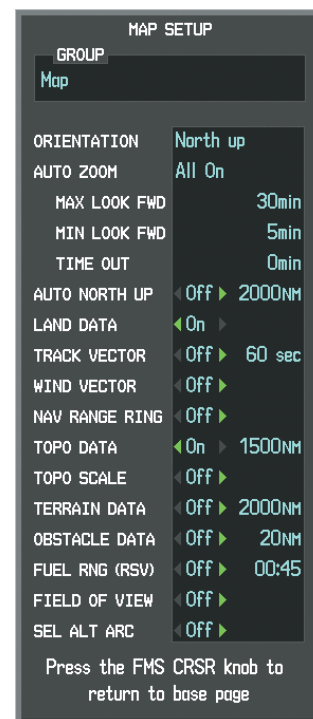

Figure 6-98 Navigation Map Page Setup Menu, Map Group
When Terrain Proximity is selected on maps other than the Terrain Proximity Page, an icon to indicate the feature is enabled for display and a legend for Terrain Proximity colors are shown (Figure 6-98).
- 5) Turn the large **FMS** Knob or press the **ENT** Key to scroll through product selections (Figure 6-98).